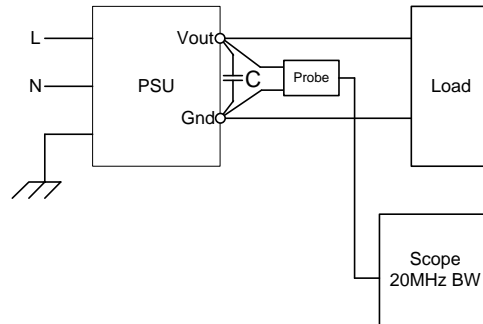

Figure 6 - Output Ripple Test Setup
- Outputs bypassed at the point of measurement with a parallel combination of 10 μ F tantalum capacitor in parallel with 0.1 μ F ceramic capacitors, referring the setup in *Figure 6*.